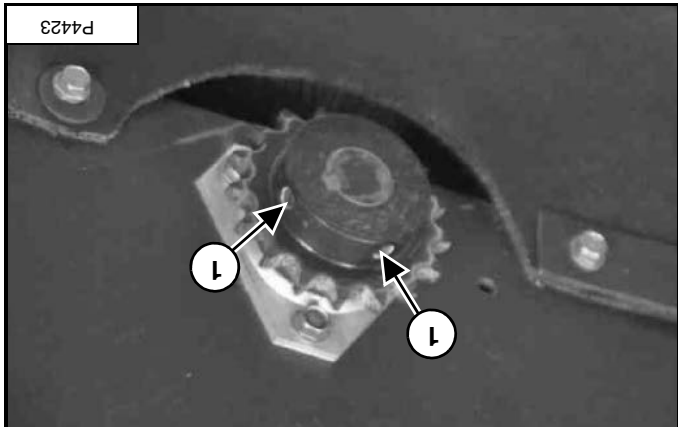

Figure 121
Install the sprocket. Install the set screws (item 1) [Figure 121].